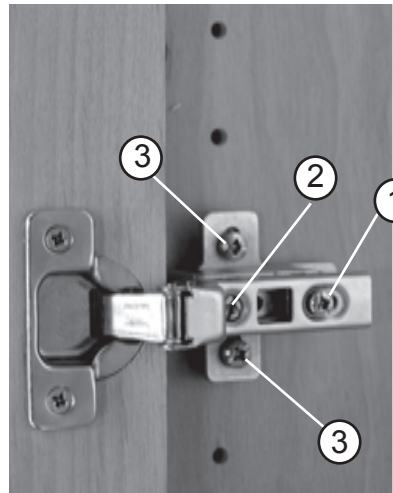

Fig. 6
- The door may need to be adjusted so that all the spaces between the doors and unit sides are equal. To make those adjustments, follow instructions in Figure 6.